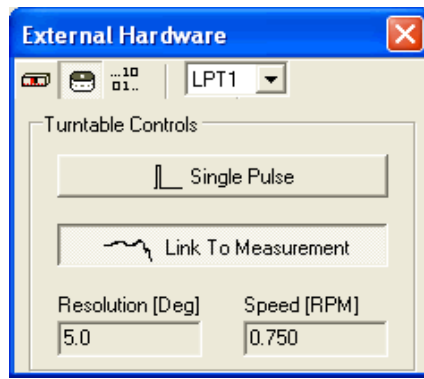

Figure 12.12
- 3) Recall the turntable control dialog (Fig.12.12), set Resolution at  $5^{\circ}$ , Speed at 0.75 RPM and press Link To Measurement